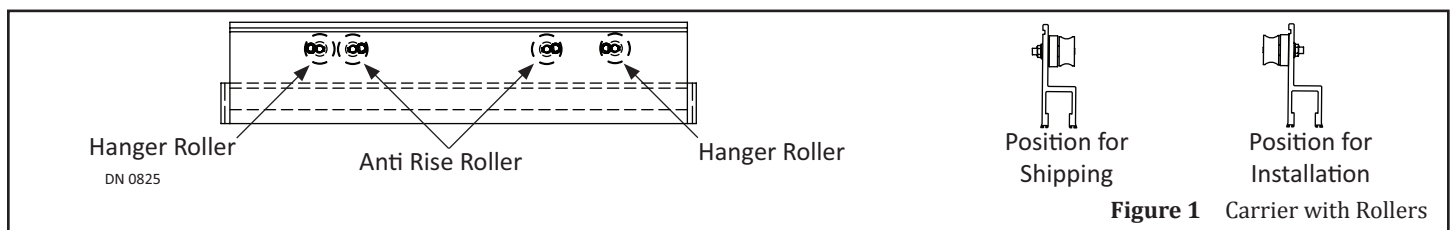

Figure 1 Carrier with Rollers
- a. Ensure each Roller is horizontally aligned to each other. Please see Figure 1.
3. Remove each Roller located at the front of the Carrier. Refer to the instruction sticker to reinstall each Roller to the back of the Carrier. Ensure each Roller is horizontally aligned to each other. Please see Figure 1.